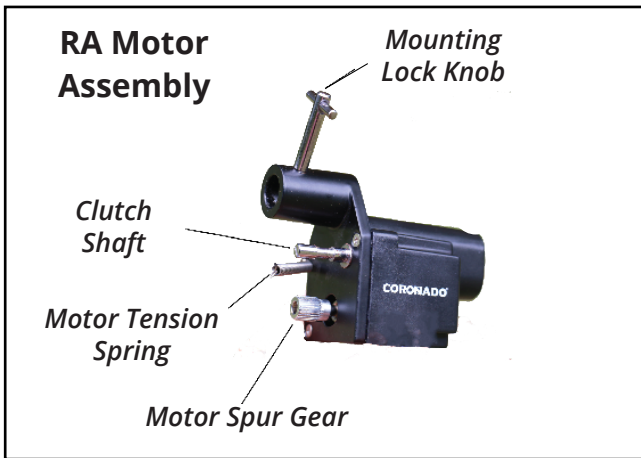
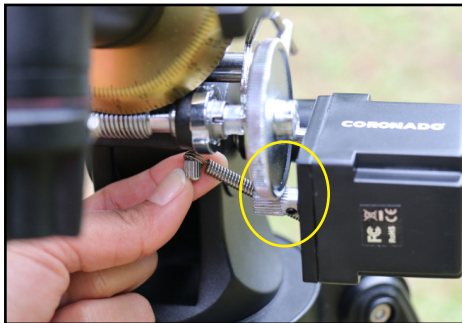

Figure 7.
Figure 9.
9. Loosen the Motor Mounting Lock Knob of the RA assembly (*Figure 7.*) You can find the RA assembly in the Clock Drive Box.
11. Turn the RA Motor Drive Assembly until the Motor Spur Gear (*Figure 7.*) and RA Spur Gear (#12) fit together (*Figure 9.*)